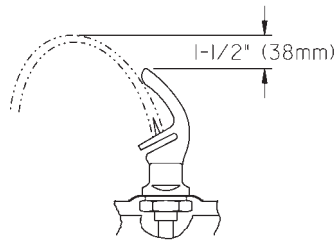

FIG. 14
2. Stream height is factory set at 45-50 PSI. If stream height (See Fig. 14) needs to be changed adjust the regulator in the freeze resistant package. Clockwise adjustment raises stream height, counter clockwise adjustment will lower stream.